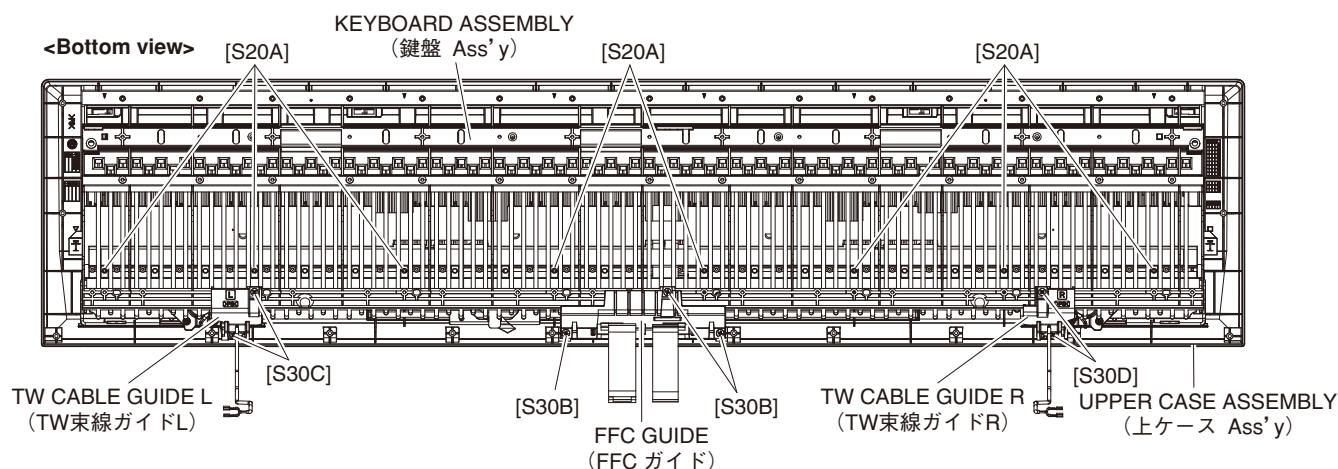

Fig. A-4 (図 A-4)
- A-6-2. Remove the three (3) screws marked [S30B], then remove the FFC guide. (Fig. A-4)
- A-6-3. Remove the two (2) screws marked [S30C], then remove the TW cable guide L. (Fig. A-4)
- A-6-4. Remove the two (2) screws marked [S30D], then remove the TW cable guide R. (Fig. A-4)
- A-6-5. Remove eight (8) screws marked [S20A]. The keyboard assembly can then be removed. (Fig. A-4)
(図 A-4)